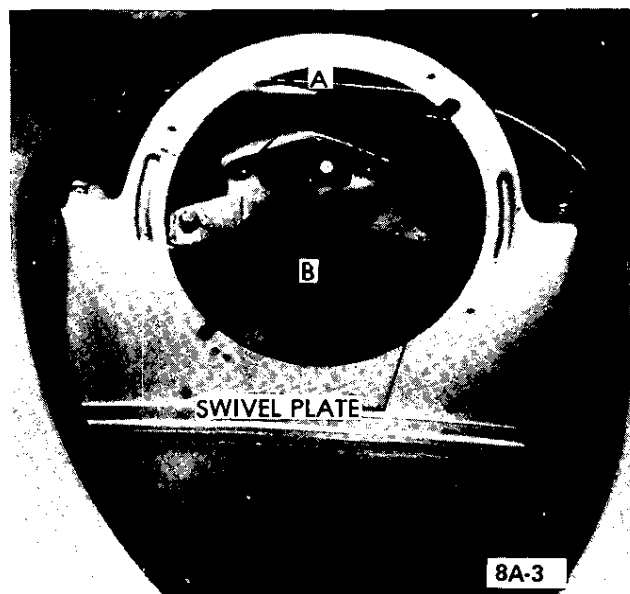

Figure 8A-3 Headlamp Assembly Rear Adjustment Location
c. To align rear of assembly vertically loosen bolts indicated (A) in Figure 8A-3.